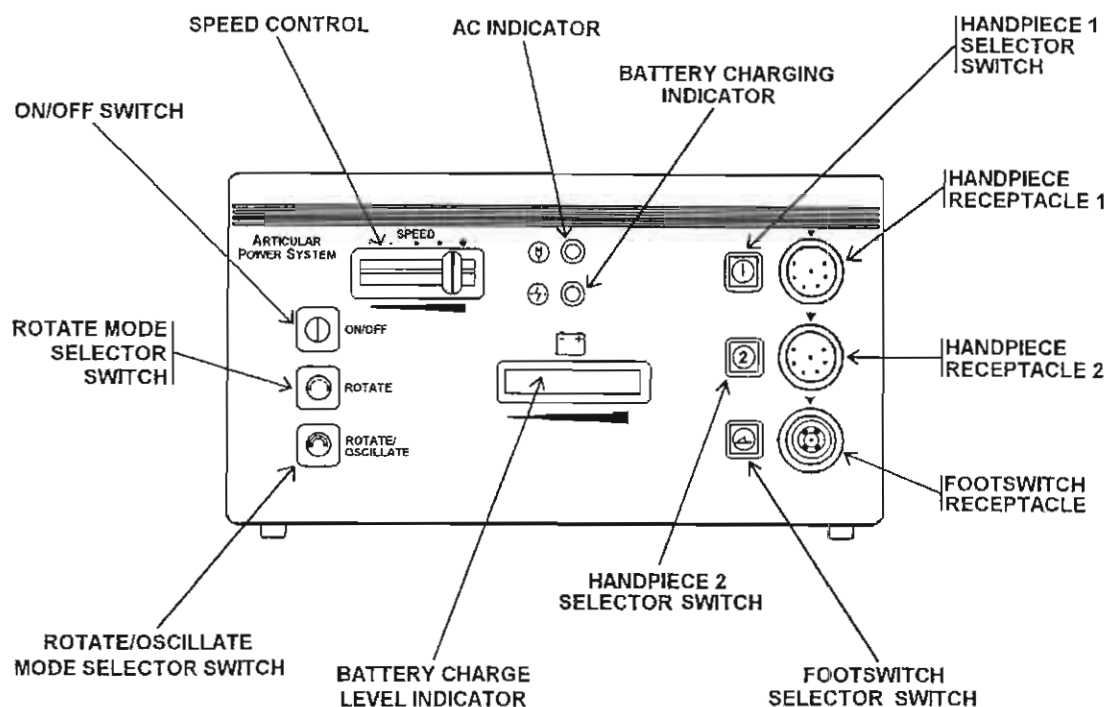

Figure 2-2. APS controls, indicators, and receptacles.
### 2-4. APS controls, indicators, and receptacles (fig 2-2).
- f. Observe that the handpiece speed is determined by the position of the APS console sliding **SPEED** control switch (fig 2-2). The handpiece speed can be adjusted by sliding the **SPEED** control to the left or to the right. The handpiece speed can be adjusted during operation.
b. Ensure that the **SPEED** control (refer to fig 2-2) is moved to the left position.
c. Depress either the **ROTATE** mode selector switch or the **ROTATE/OSCILLATE** mode selector switch, if illuminated. (Refer to fig 2-2.)